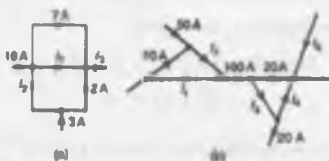

Figure 13.12
- 2 For the networks shown in Fig. 13.12, find the values of the currents marked.